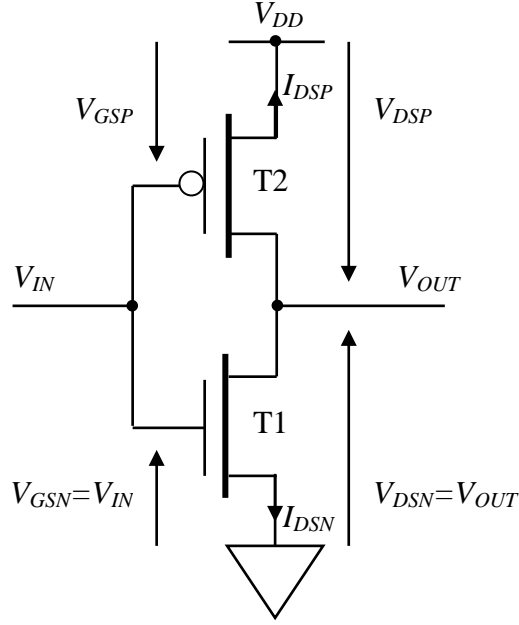

Figure 3: CMOS Inverter
3. a. For the two FETs shown in **Figure 3**, write down the equations for I_{DSN} and I_{DSP} in the saturated mode of operation (using the usual terms and ignoring channel length modulation).
- b. Show that the value of the input voltage, $V_{IN|switch}$, when the output of the inverter in **Figure 3** switches is identified by the following equation: